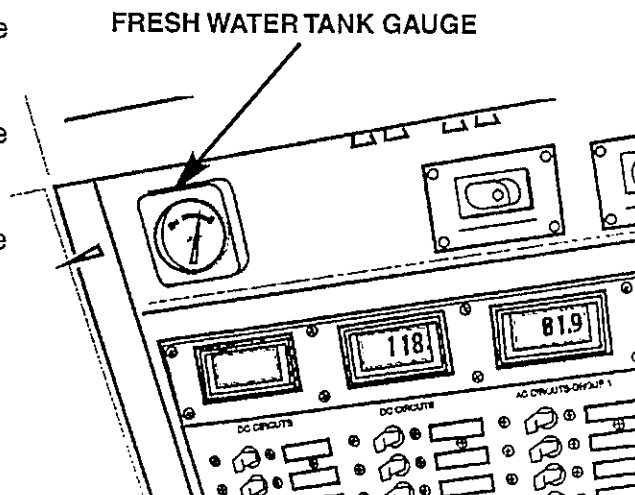

Figure 3-23 Water Tank Gauge
3. See Figure 3-23. Check that the water tank gauge on the Master Control Panel indicates full.